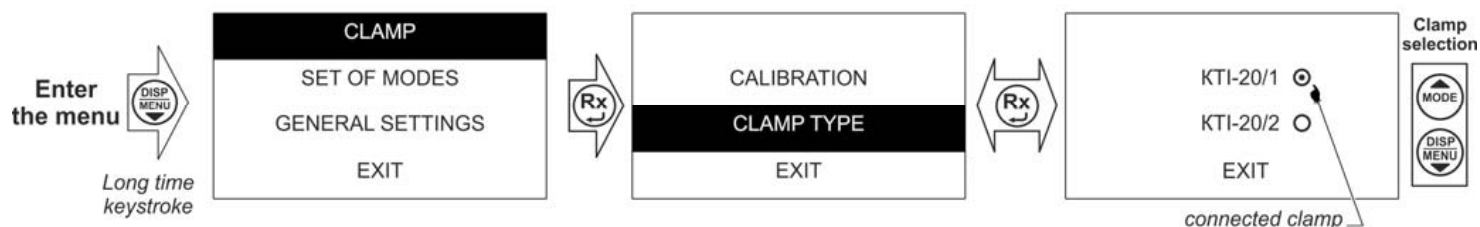

Figure 2.10 – Selection of clamp meter type
**ATTENTION!** Before proceeding to measurements, set the relevant clamp meter model in the instrument model (Figure 2.10). After that a clamp meter sign in the top left corner of the display will be shown as  for KTI-20/1 or  for KTI-20/2.